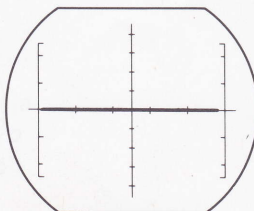

Fig. 15
4. Adjust R21 and R27 so that line is centered as shown in fig. 15.